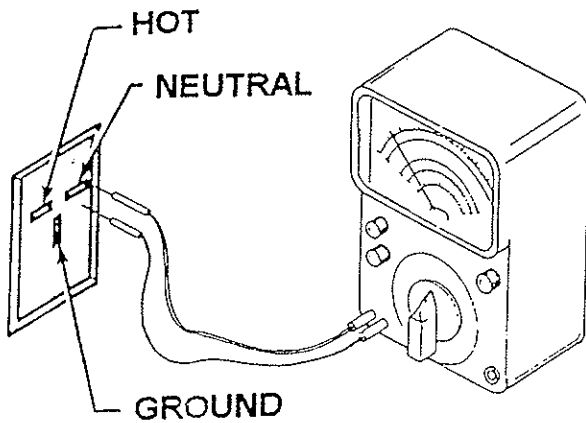

Figure 2
The **ground** terminal is perpendicular to the other two slots. In a standard three (3) prong 230 volt wall outlet the **neutral** terminal is located counter-clockwise from the ground terminal and the **hot** terminal is located clockwise from the ground pin. See **Figure 2**.